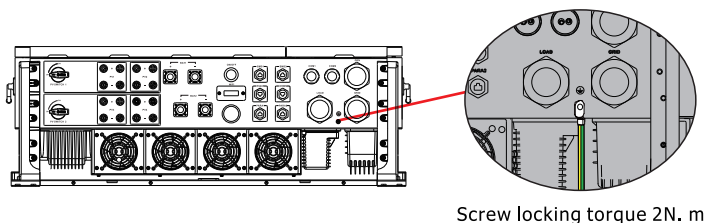

Figure 3.4-3 Rack earth (Ground wire locked by M5)
Step 3: Secure the grounding wire with M5 screws to ensure the rack is grounded. See Figure 3.4-3.